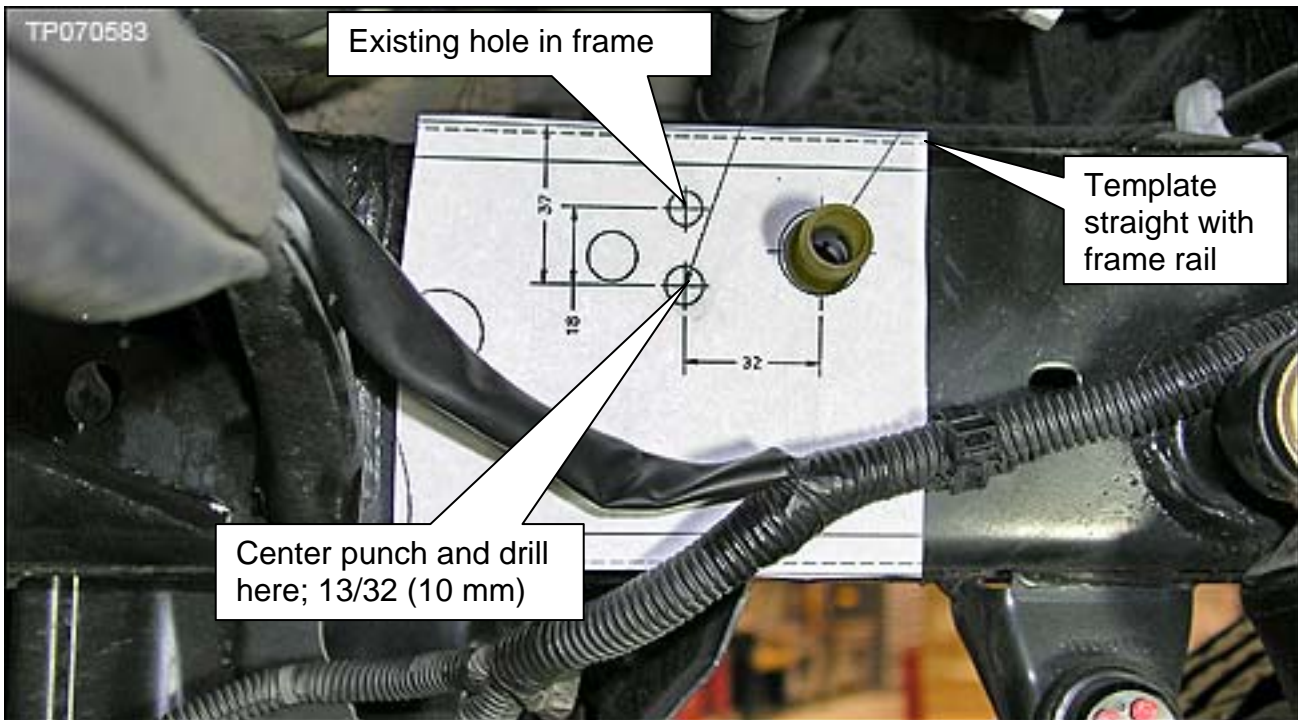

Figure 3
5. Cut out the template on page 9 and place it on the frame rail as shown in Figure 3.